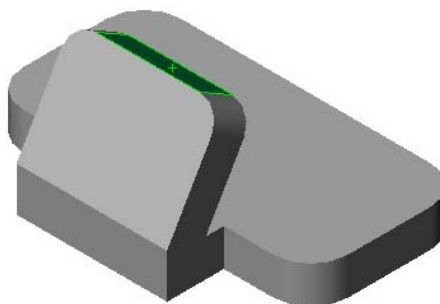

Figure 12 Sketch surface for slot cut
1. Select the top face of the slot body as shown in Figure 12.